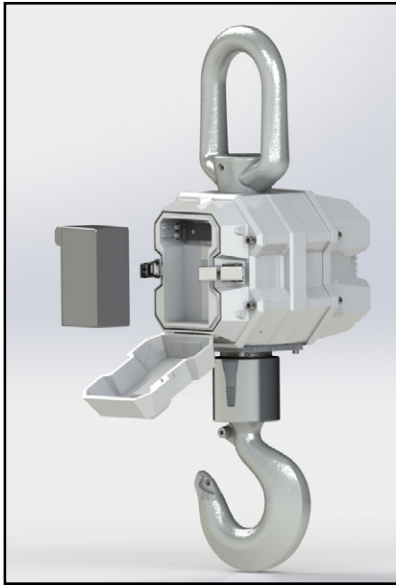

Figure 2-2. Remove Battery
1. Remove the battery from the MSI-6360 (Figure 2-2 on page 12).